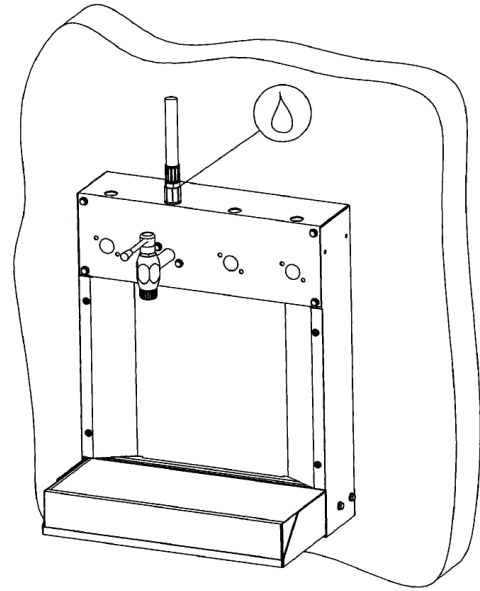

Figure 3
3. Once assembled, connect the corresponding hoses (See figure 3). Use Loctite Blue #242 to seal all spigot unions (teflon tape/pipe dope will not work).